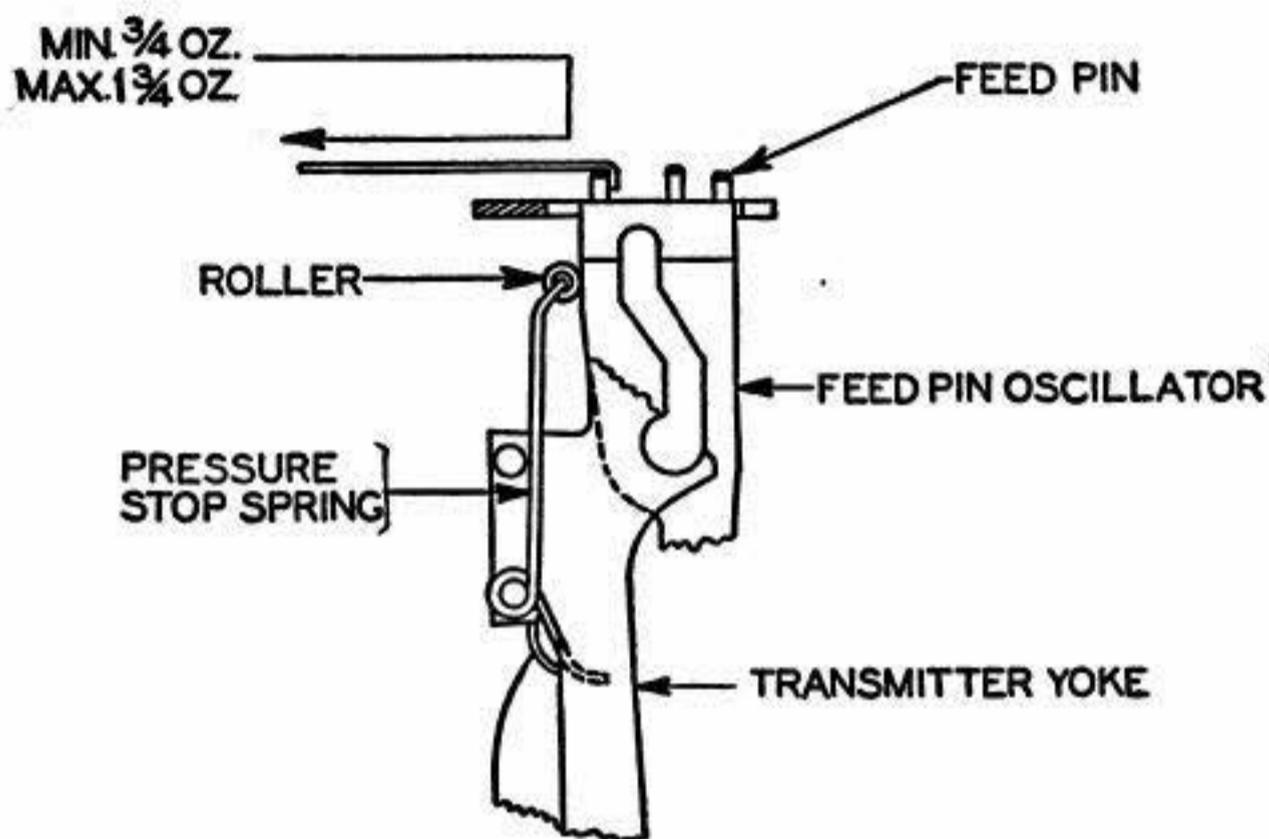

Fig. 1
2.01 Tape-Feed-Pin Oscillator Pressure-Stop Spring: With the sensing shaft in its stop position, it should require Min. $\frac{3}{4}$ oz., Max. $1\frac{3}{4}$ oz. to start the feed-pin oscillator moving. **Fig. 1**